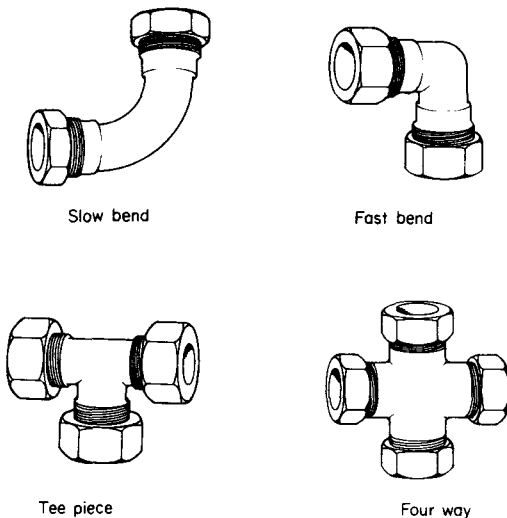

Fig. 4.165 Special pipe fittings
6. **Special fittings** (Fig. 4.165) are obtainable for many purposes.